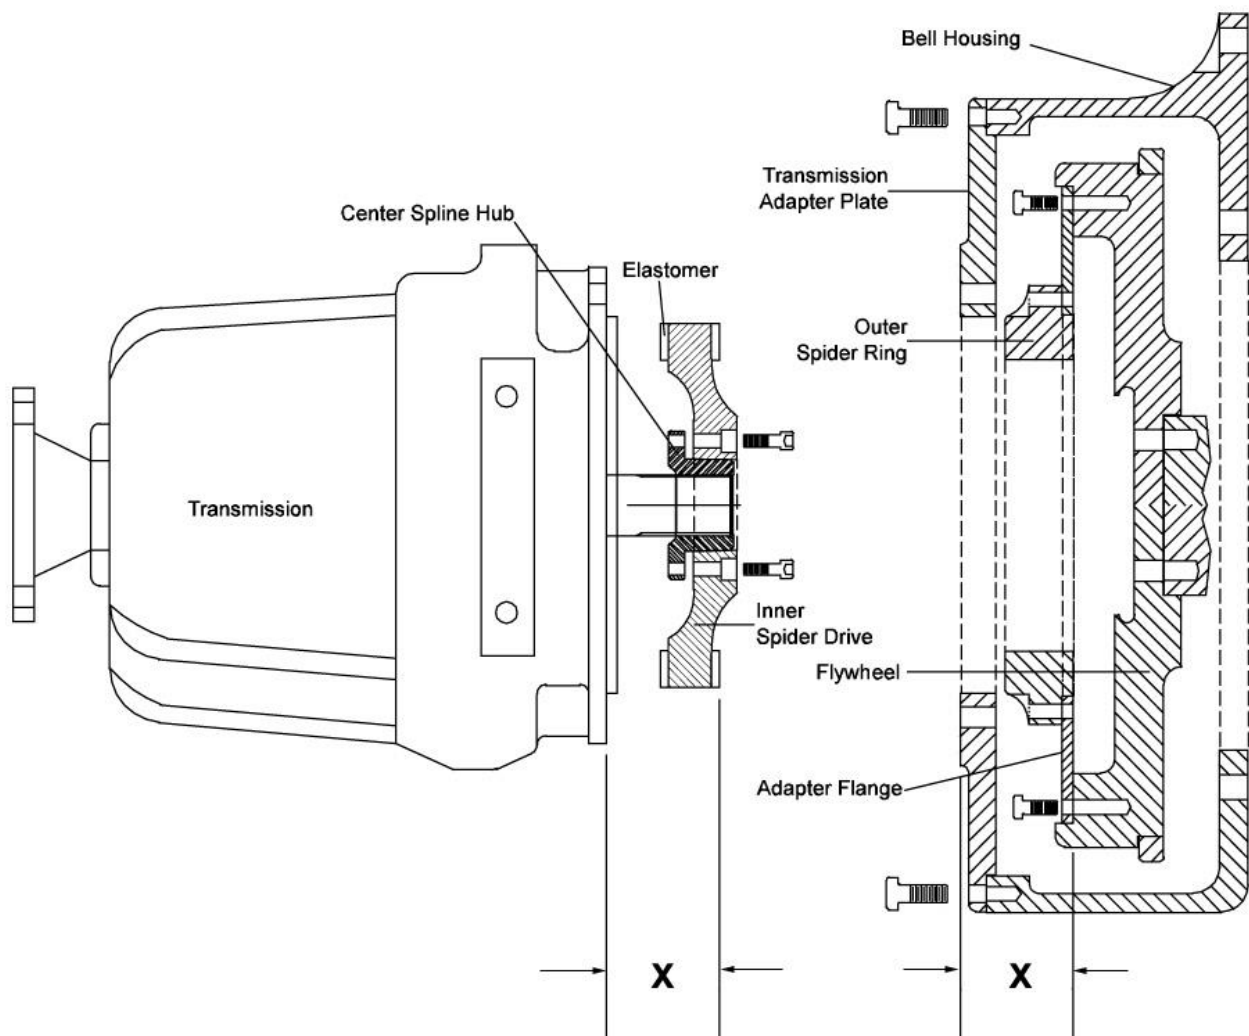

Fig. 2: Mounting Inner Spider Drive to Transmission
Mounting Inner Spider Drive for Borg Warner Group *(See Fig.2)*
(See Fig.2)
- Measure from the flywheel contact surface to the mounting face of the transmission adapter plate (*see Fig. 2*), this measurement will be used in the preceding steps to adjust the location of the inner spider drive on the transmission input shaft. This measurement will be referred to as "X"
- Now using the measurement "X" obtained above, adjust the location of the inner spider drive on the transmission input shaft (tap only the center spline hub during adjustment) so that when you measure from the mounting face of the transmission adapter plate to the outside of the elastomers, the distance equals "X". (*See Fig. 2*)